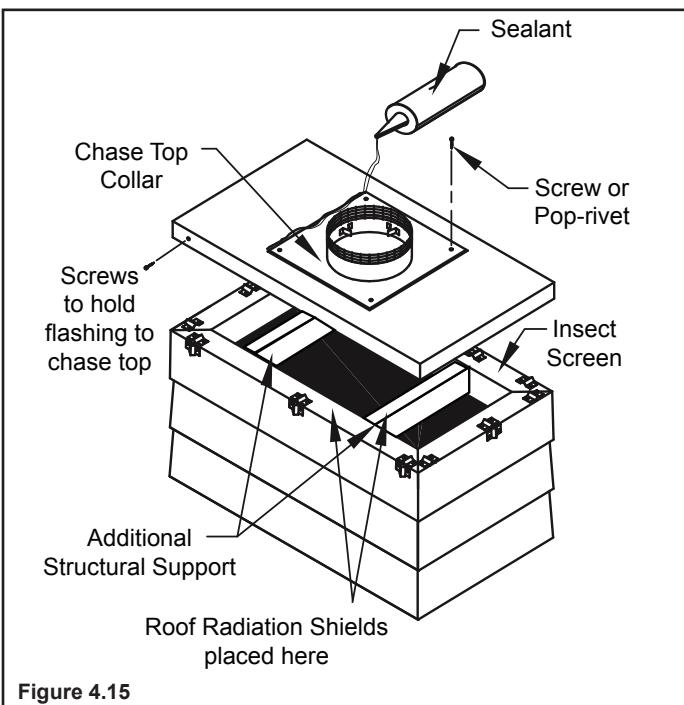

Figure 4.15
- Additional non-combustible structural supports can be field-fabricated to help support the chase top flashing if needed, provided the air ventilation requirements are maintained. See Figure 4.15.